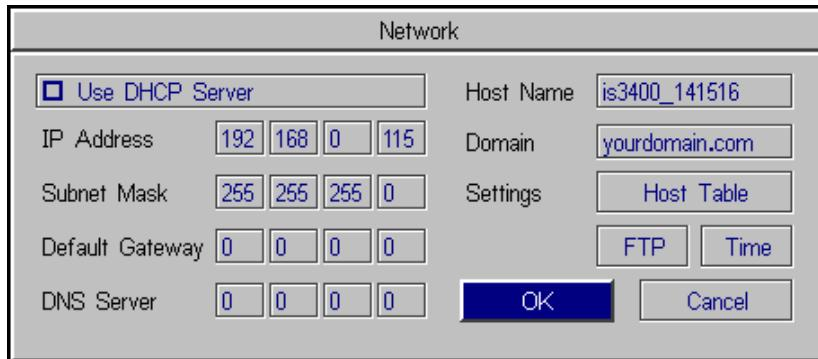

Figure C-10: Network Dialog
4. From the System Menu, select Network to open the Network dialog (Figure C-10).